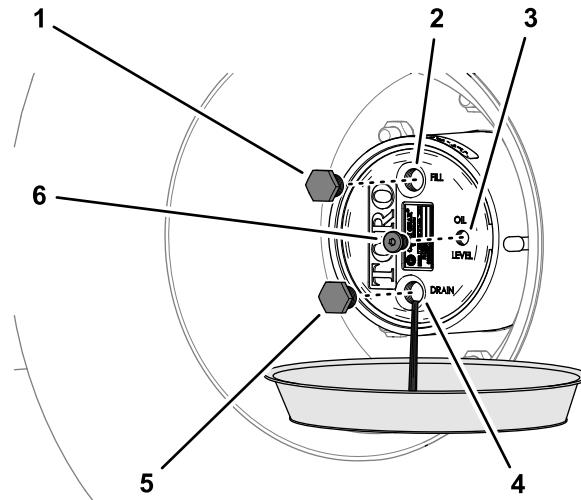

Figure 89
2. Place a drain pan under the hub of the planetary-gear drive, remove the drain plug, fill plug, and the check plug, and allow the lubricant to drain completely (Figure 89).